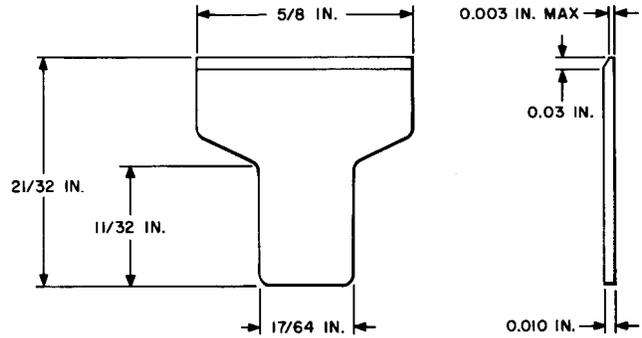

Fig. 5—750A Contact Insulator Tool
2.06 750A: The 750A contact insulator tool (Fig. 5) consists of a strip of insulating material having a finger grip at one end. The 750A contact insulator tool is used to insulate the contacts during the removal of the card from BF-, BJ-, and BL-type relays.